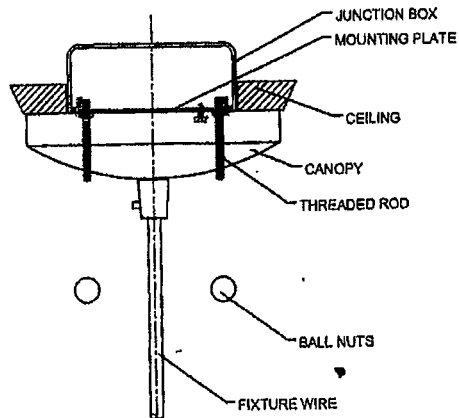

FIGURE-03
8. Using the ball nuts, loosely fasten the fixture to the threaded rod on mounting plate. Rotate and align the canopy as necessary. Tighten the ball nuts. (See Figure-03)